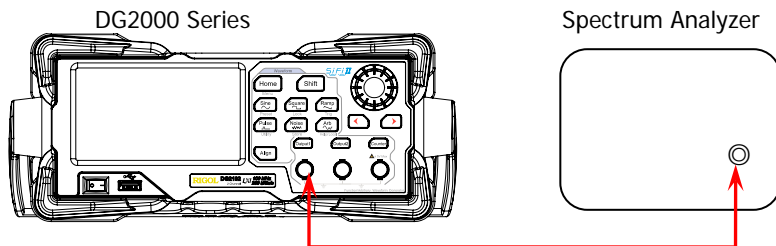

Figure 2-4 Connect DG2000 and the Spectrum Analyzer
1. Make sure that the environment temperature is between 18°C and 28°C and DG2000 has been warmed up for at least 30 minutes. Connect the channel output terminal (take CH1 as an example; the test method is also applicable to CH2) of DG2000 with the signal input terminal of the spectrum analyzer using a dual-BNC connecting cable and N-BNC adaptor as shown in Figure 2-4.
- Make sure that the environment temperature is between 18°C and 28°C and DG2000 has been warmed up for at least 30 minutes. Connect the channel output terminal (take CH1 as an example; the test method is also applicable to CH2) of DG2000 with the RF input terminal of the spectrum analyzer using a dual-BNC cable and N-BNC adaptor as shown in Figure 2-4.